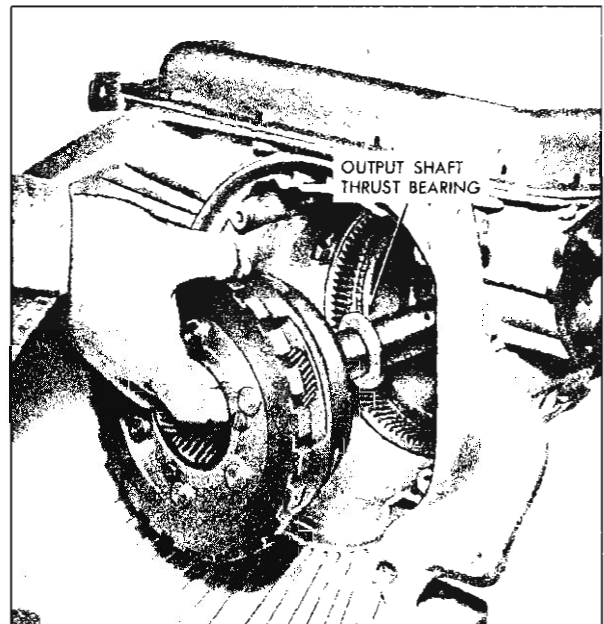

Fig. 37PG—Installing Gearset
16. Place the output shaft thrust bearing over the output shaft and install the planetary carrier and output shaft into the transmission case (fig. 37PG).